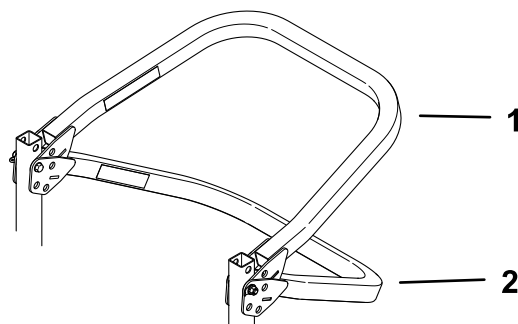

Figure 9
**Note:** There are 2 down positions, as shown in Figure 9.